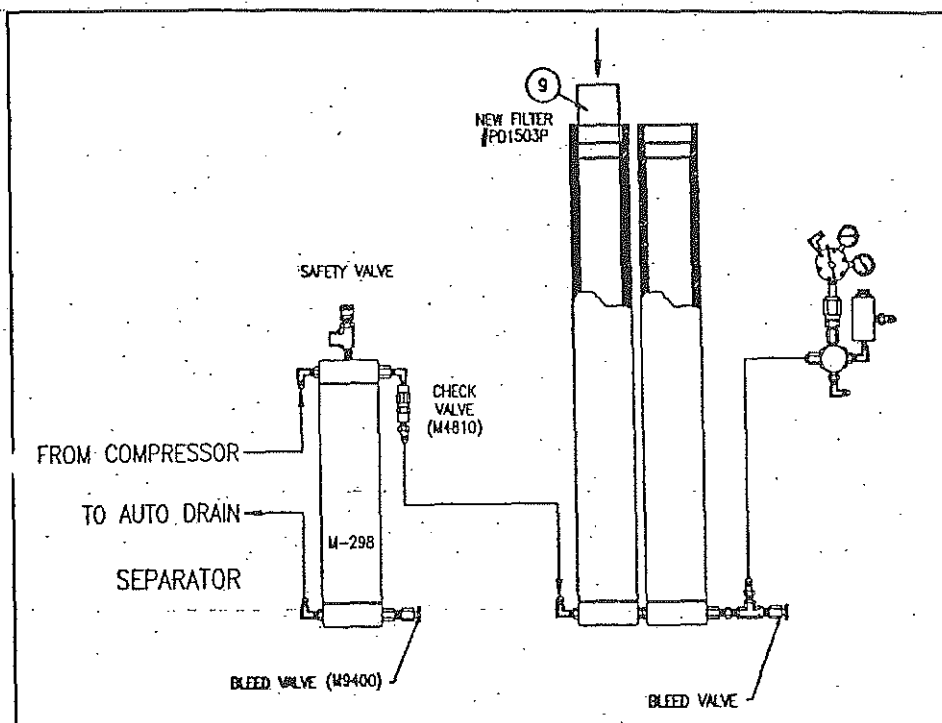

FIGURE 5-10 FILTER CARTRIDGE INSTALLATION
12. Dry the water forced into the second chamber (8) using clean, dry rags.
13. Install a new filter cartridge, PD1503P, (9) in the first chamber (7) (see Figure 5-10)